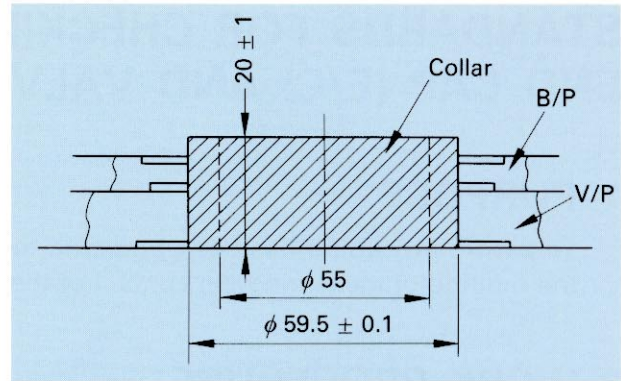

Fig. 2
- (1) Insert the specified collar in the valve plate center hole, and fit the bearing plate on top. (See Fig. 2)
- (2) Push down on the whole bearing plate with both hands, and rotate the bearing plate about 5° from side to side three times to rub the surfaces together.